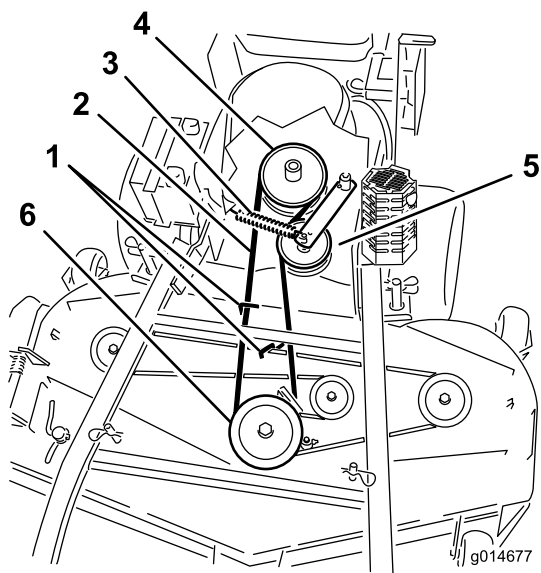
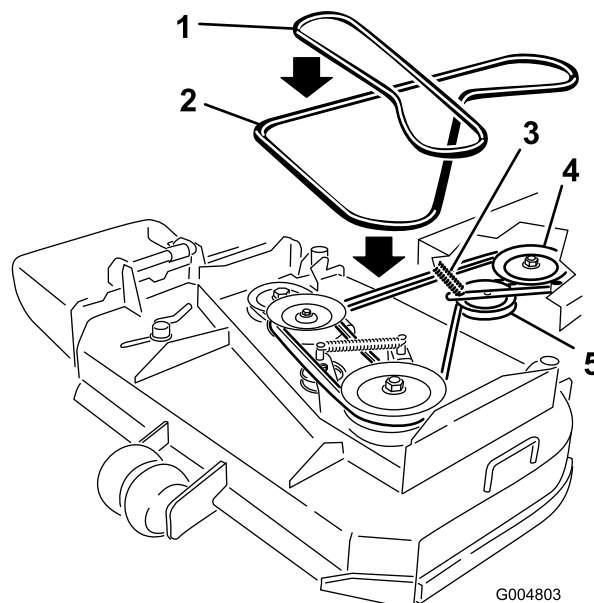

Figure 51
Figure 52
6. Roll the belt off of the center pulley on the mower deck (Figure 51). Refer to Figure 52 to roll the belt off left pulley for a 36 inch mower deck. Use caution when removing the belt as tension will increase because of the spring loaded idler pulley.
7. Remove the belt from the engine pulley and the spring loaded idler pulley (Figure 51). Refer to Figure 52 to remove the belt from the 36 inch mower deck pulleys.
8. Install the new belt onto the engine pulley and spring loaded idler pulley (Figure 51).
9. Roll the belt onto the center pulley on the mower deck (Figure 51). Use caution when install the belt as tension will increase because of the spring loaded idler pulley.
Refer to Figure 52 to roll the new belt onto the left pulley for a 36 inch mower deck.
11. Adjust the belt guide an 1/8 inch (3 mm) from the belt for 48 inch mower decks (Figure 51).